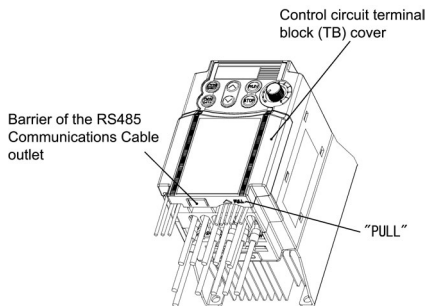

Figure 2.6 Removing the Control Circuit Terminal Block Cover
- 3) Before putting the control circuit TB cover, snip off the barrier of the RS485 Communications Cable outlet with nippers (Figure 2.6).